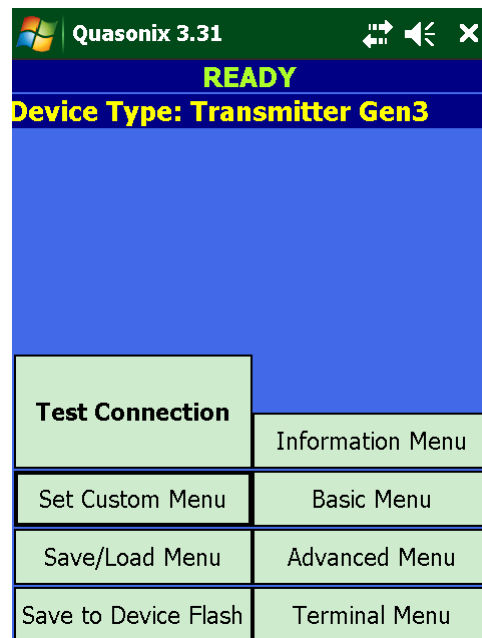

Figure 42: Main Menu--Custom Menu Selection Removed
8. The Main Menu redisplay with a Custom Menu option (Figure 42).